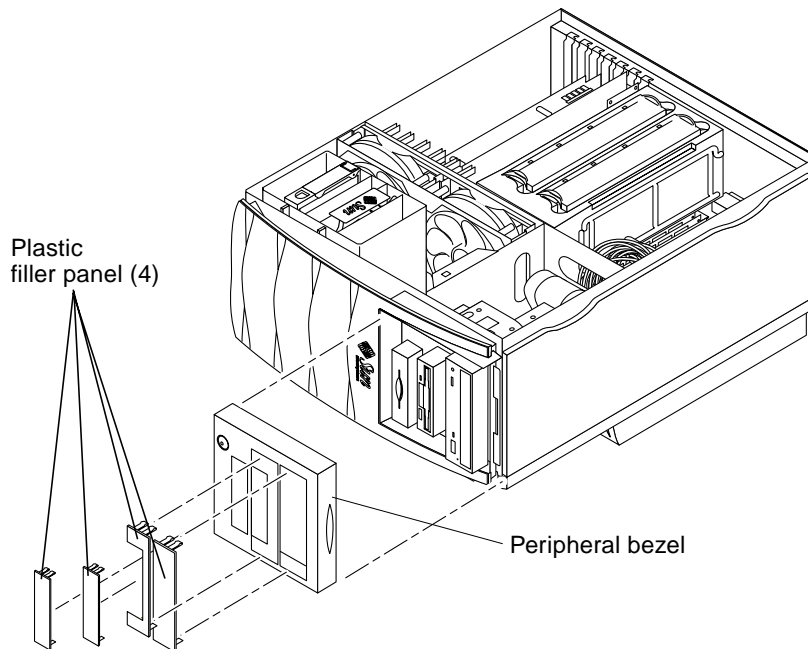

FIGURE 6-18 Removing and Replacing Plastic Filler Panels
2. Remove the peripheral bezel assembly (FIGURE 6-18).
2. Position and snap the plastic filler panel into the peripheral bezel assembly (FIGURE 6-18).